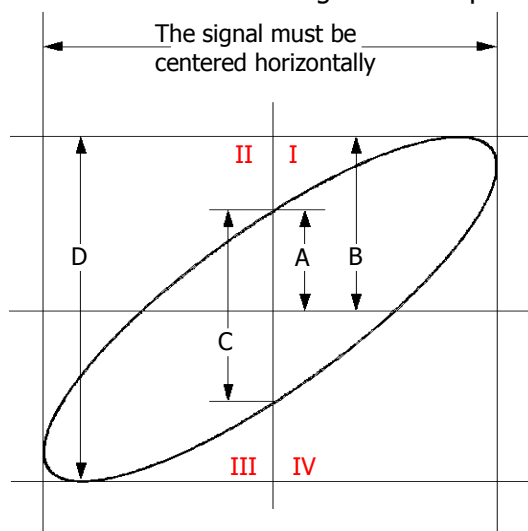

Figure 3-2 Measurement Schematic Diagram of Phase Deviation
5. Observe the measurement result shown in the figure above. According to the measurement schematic diagram of the phase deviation (as shown in Figure 3-2), A/B (C/D) = 1. Thus, the phase deviation angle $\theta = \pm \arcsin 1 = 90^\circ$.